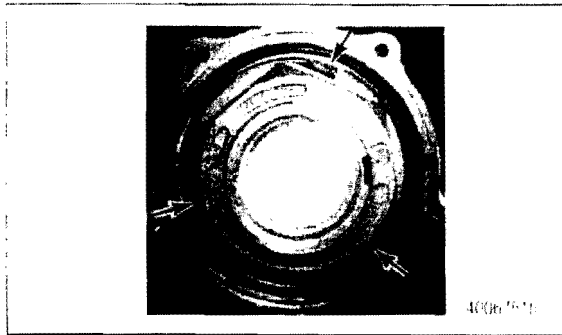
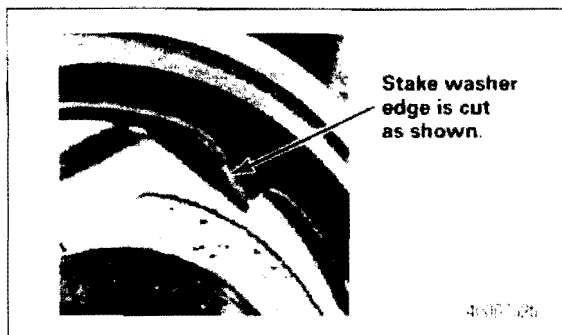

Figure 12
Figure 13
10. Use a hammer to stake the stake washer (part number AM21225b14) to the spindle in **three** positions. Figure 12 and Figure 13.